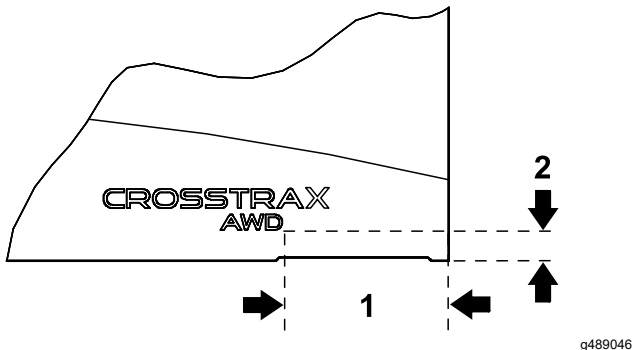

Figure 15
2. Using the dimensions shown in Figure 15, affix a CROSSTRAX decal to the lower rear corner of each side of the hood.